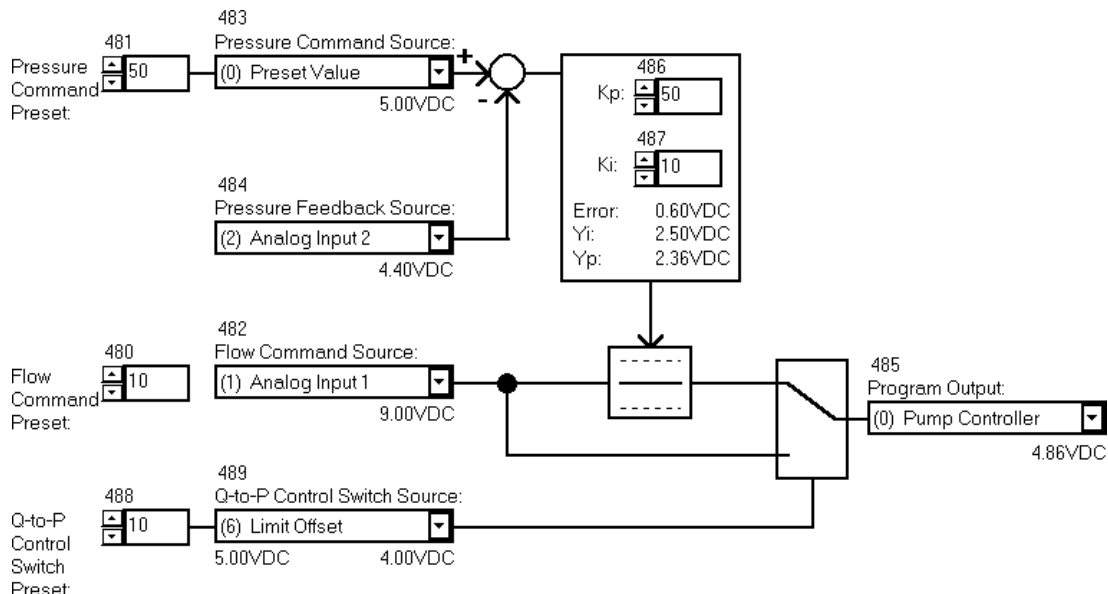

Figure 9: Pressure Control with Flow Preset Program in Pressure Mode
Example: Figure 9 shows Program 9 Form for Pressure Control with Flow Preset in Pressure Mode. The Flow Command Source is Analog Input 1 (program item 482=1). The Flow Command Preset is set to 10% (program item 480=10) although the Flow Command Preset is not used in this example.